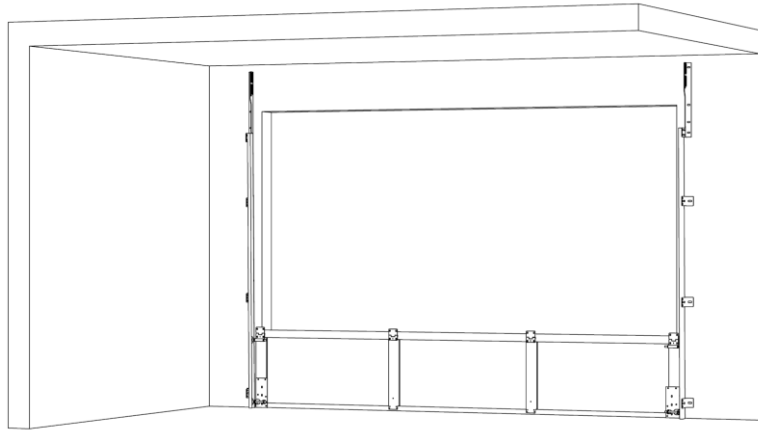

Figure 12
6. Attach pre-assembled vertical guides to wall (Figure 12)